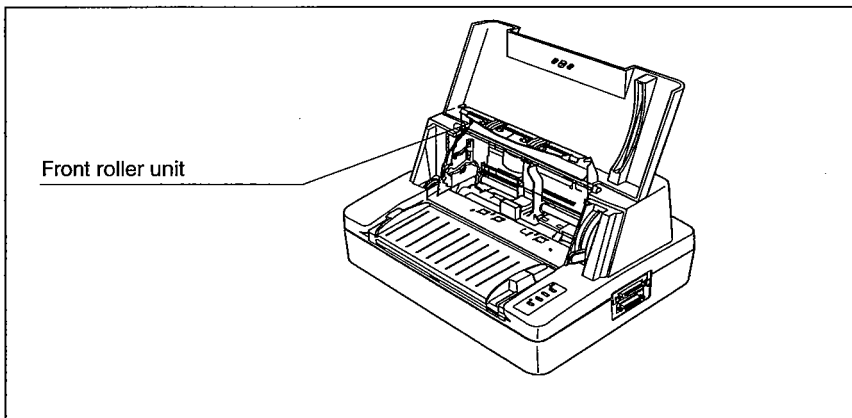

Figure 2-5 Opening the front roller unit
- 3 Pull the front roller unit by gripping the center area of the unit by your forefingers until you hear a click. Then lift it up until the unit is positioned on the top of printer as shown in Figure 2-5.